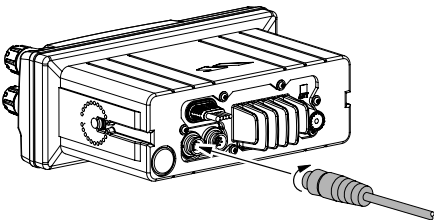

FIGURE 1
- 1. Connect the Extension Cable to the 8-pin connector on the transceivers rear panel, then tighten the Cable Nut (Figure 1).